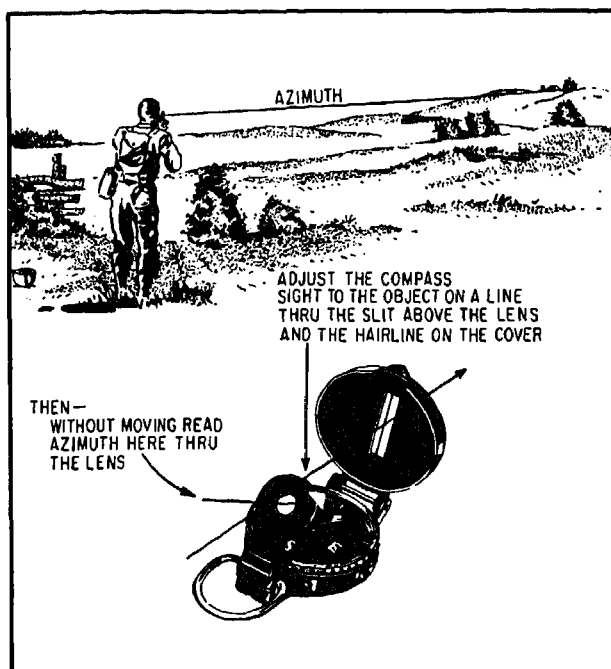

Figure 15-28.—Method of determining the azimuth of a visible object.
6. To take an azimuth reading, simply turn your entire body toward the object, pointing the compass cover directly at the object. See figure 15-28.